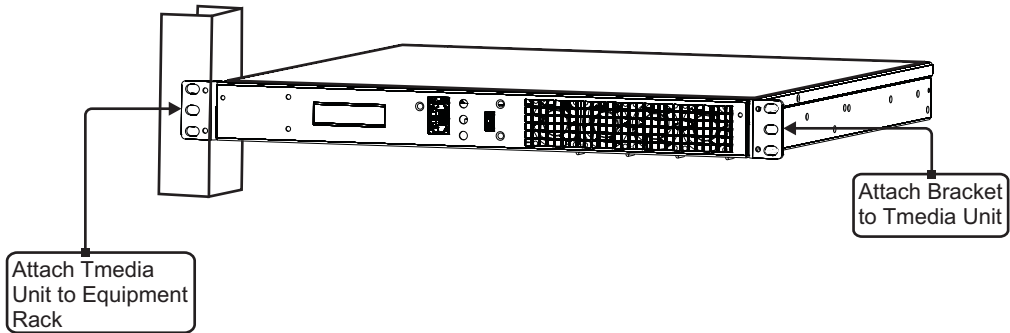

Figure 2.1 Mounting the Tmedia Hardware
1. Using two metal screws, attach one angle bracket to the front, left-hand side of each Tmedia unit when viewed from the front, as shown in figure 2.1 on page 9. Repeat the same for the angle bracket on the right-hand side. Repeat this procedure for each Tmedia unit.